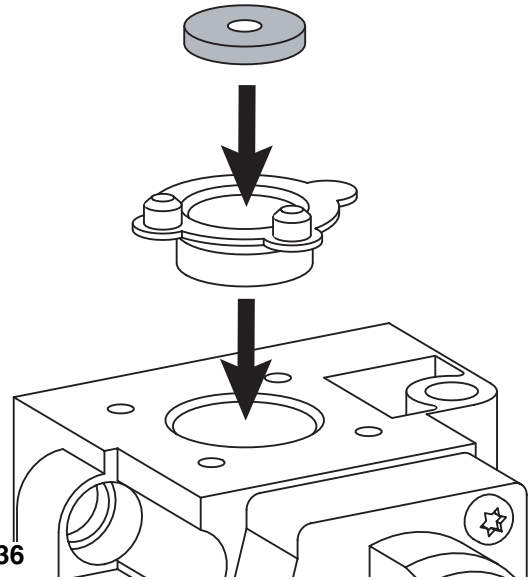

FIG. 3.36
7. Insert the diaphragm into the gas valve (see Fig. 3.36)